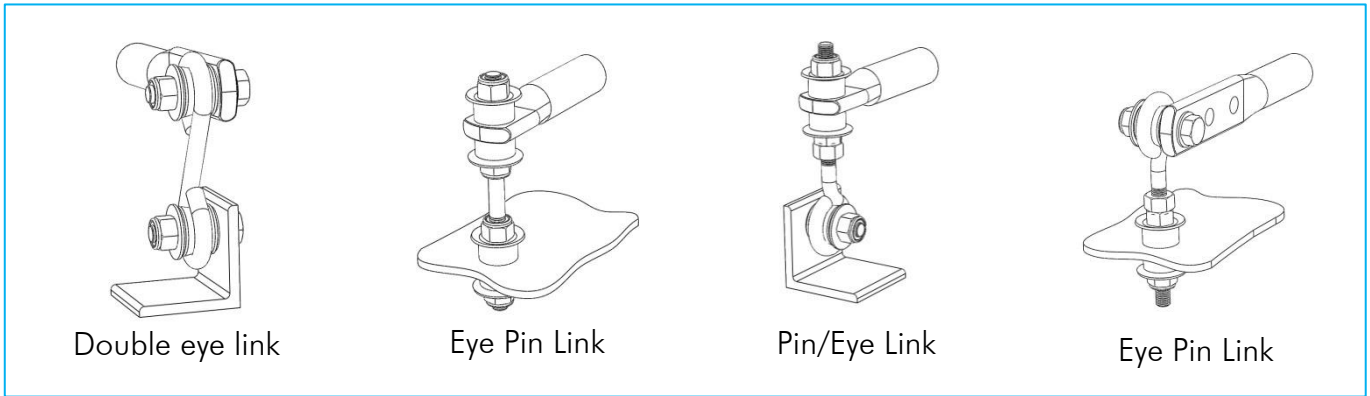

Figure 02 – Links Fitment
7. If links are supplied, please refer to Figure 02 below for correct fitment;